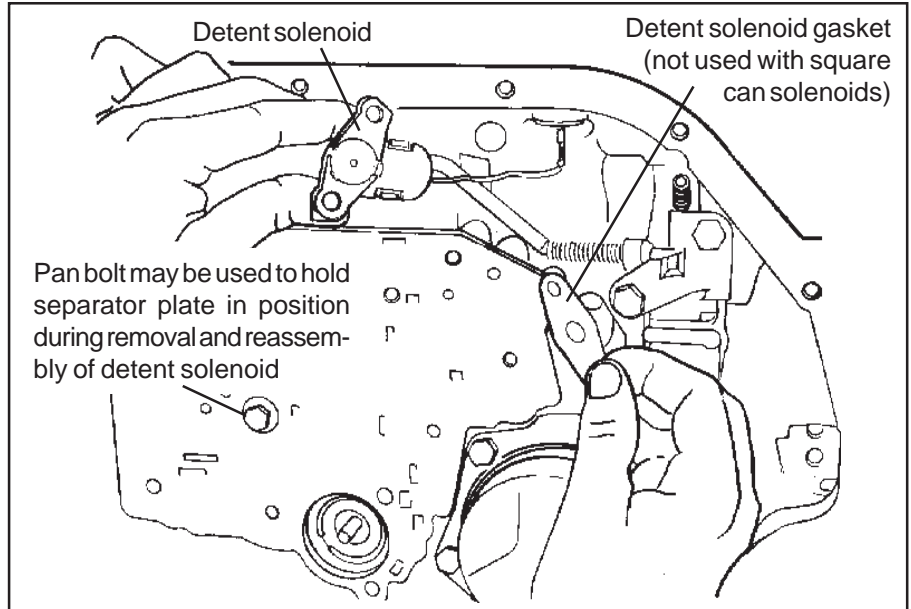

Figure 7
**STEP 5.** Use one (1) pan bolt to hold the separator plate in place while removing the solenoid. Remove the two bolts holding the detent solenoid (**See Fig. 7**) and allow the solenoid to hang by its wire. Remove the pan bolt and carefully lower the separator plate. Be careful not to loose the seven (7) 1/4" steel check balls that are on top of the separator plate. The check balls will be reused. Carefully remove all gasket material from valve body and oil pan surfaces of the case and valve body. All old gasket material must be removed before the valve body is reinstalled.
Install the plate and gasket against the case and use a clean pan bolt to hold it in position for now (**See Fig. 7**).